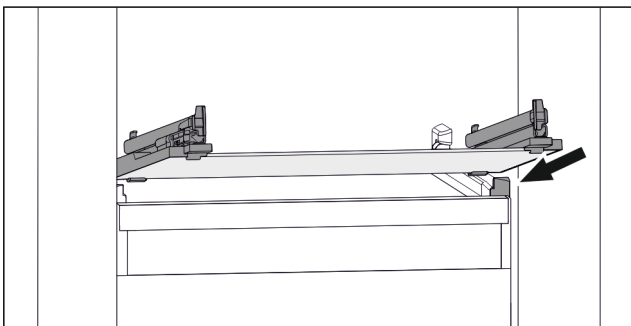

Fig. 106 Example illustration of glass shelf
- Position glass shelf at an angle behind the stoppers. (see Fig. 106)